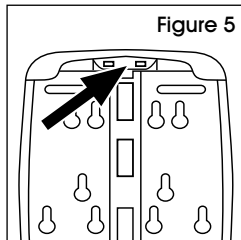

Figure 5
1. Open dispenser by pushing on cover latch until it releases. (See Figure 5)